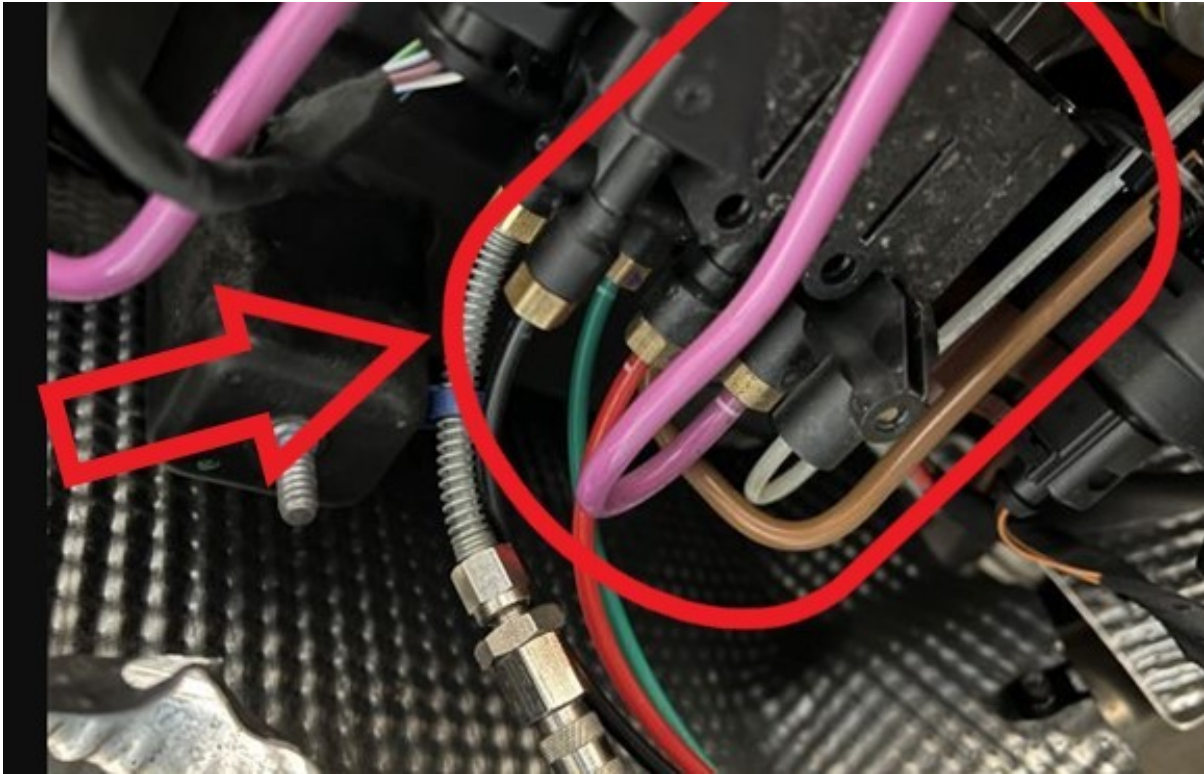

Figure 19
- Referring to Figure 19 - To assist in finding the leak, the operative must apply soapy water to the air supply unit in the area shown below, this is required to establish the source of the leak (air supply unit or air pipe connections)